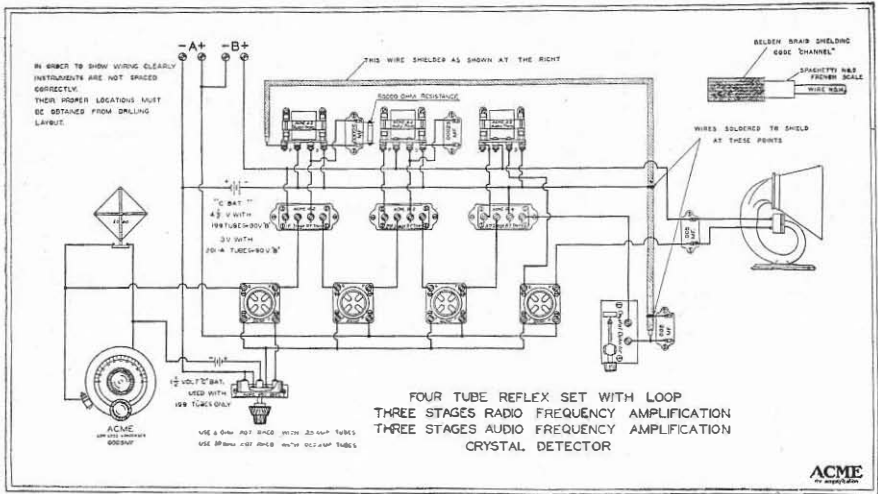

Figure 19
In both of the above circuits it is advisable to shield the lead connecting the first audio transformer to the detector. The method of shielding is shown in Fig. 19.
The circuit shown in Fig. 19 has to date been extremely popular and has become known as the Acme Four Tube Reflex Set. This circuit gives the most serviceable, sensitive set using four tubes up to date. Thousands have been built and are in operation. For list of parts see page 36.
(See Figure 19 for Diagram)
1. Four tube reflex circuit with crystal detector, having three stages of radio frequency amplification with fixed transformers (R2, R3, R4) and three stages of audio frequency amplification (3, A-2's) (Fig. 19).